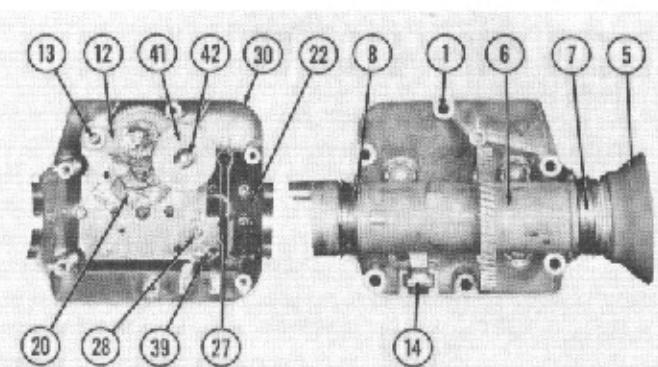

Fig. 36. Internal Components—Model U-98 Rotator Unit.
4. Contact spring (Item No. 27) in the rotor unit must make contact only when cam lobe (Item No. 41) comes in contact with the switch. If shaft assembly (Item 6 or 6A) is removed from the rotor unit, cam lobes must be $\frac{1}{2}$ turn away from contact points in end-stop position in both directions. See Fig. 36.